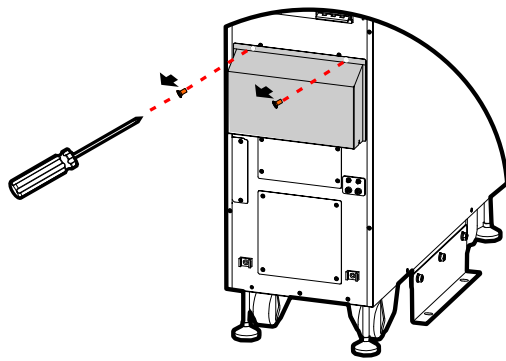
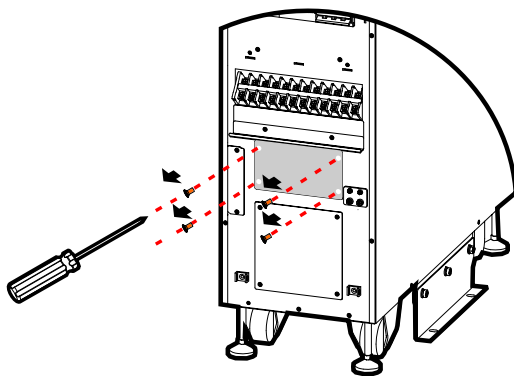

Figure3-17 Unscrew the bolt on the wiring cover plate
Figure3-18 Unscrew the bolt on the mode connector cover plate
Step 1 Unscrew the bolt on the wiring cover (as shown in Figure3-17), dismantle the wiring cover plate. Then unscrew the bolt on the connector cover (as shown in Figure3-18), dismantle the connector cover plate.